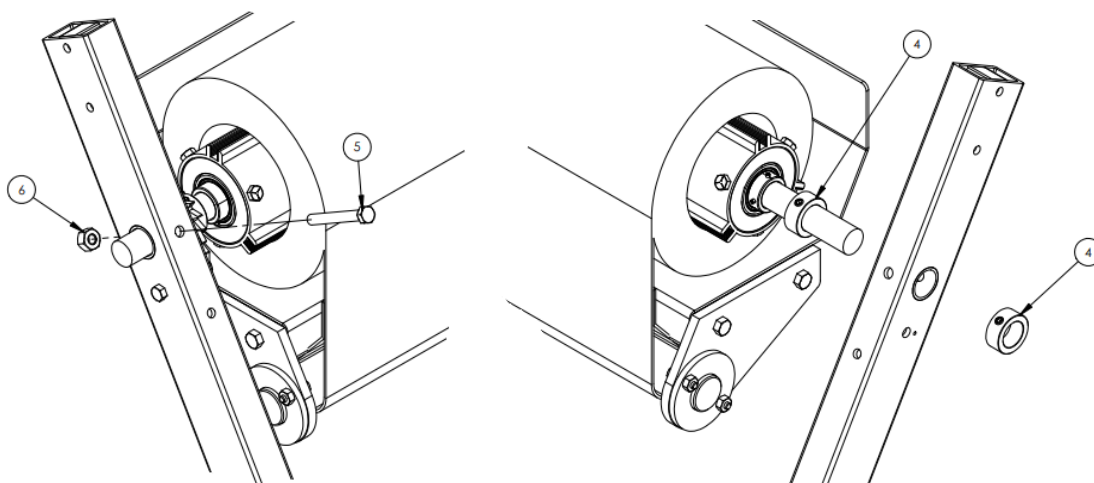

Figure 2.11: Installing Roller Tube onto Extension Arms
Slide one shaft collar (2) onto the passenger's side roller tube shaft. Lift and extend arms to slide over the tarp roller assembly shaft on either end. Temporarily slide the provided 3/8" x 3" grade 8 bolt (3) through the driver side arm and shaft to hold in place, hand tighten nut (4) onto bolt. Ratchet gear should be engaging the pawl at this point. If the arm cylinders are locked into place, complete the hydraulic install prior to doing this step. See *Figure 2.11*.